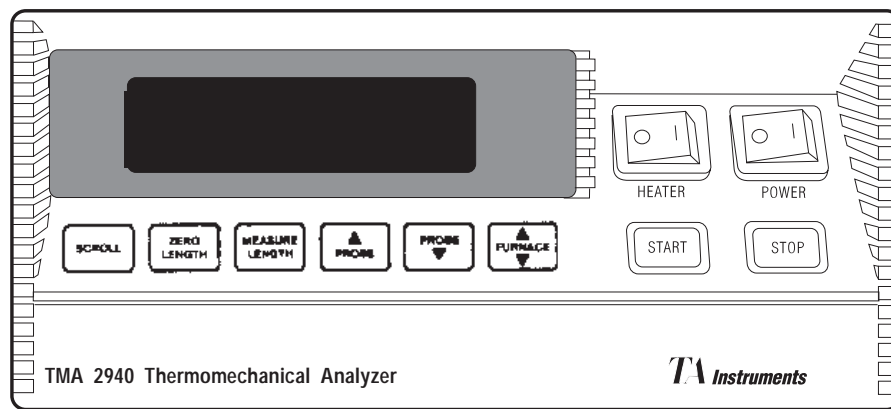

Figure 2.16
1. Make sure the instrument POWER switch (see Figure 2.16) is in the OFF (O) position.